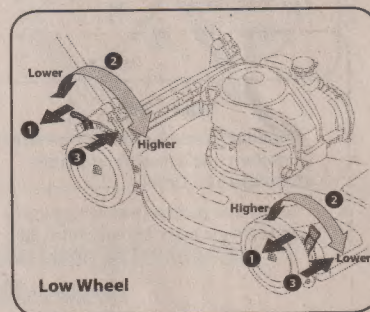
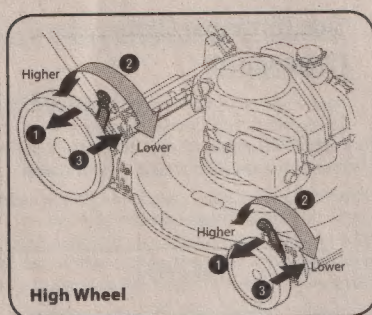

Figure 2-11
Figure 2-12
2. Move lever to desired position for a change in cutting height. See Figure 2-11 for low wheel and Figure 2-12 for high wheel.
3. Release lever towards deck. See Figure 2-11 and Figure 2-12.